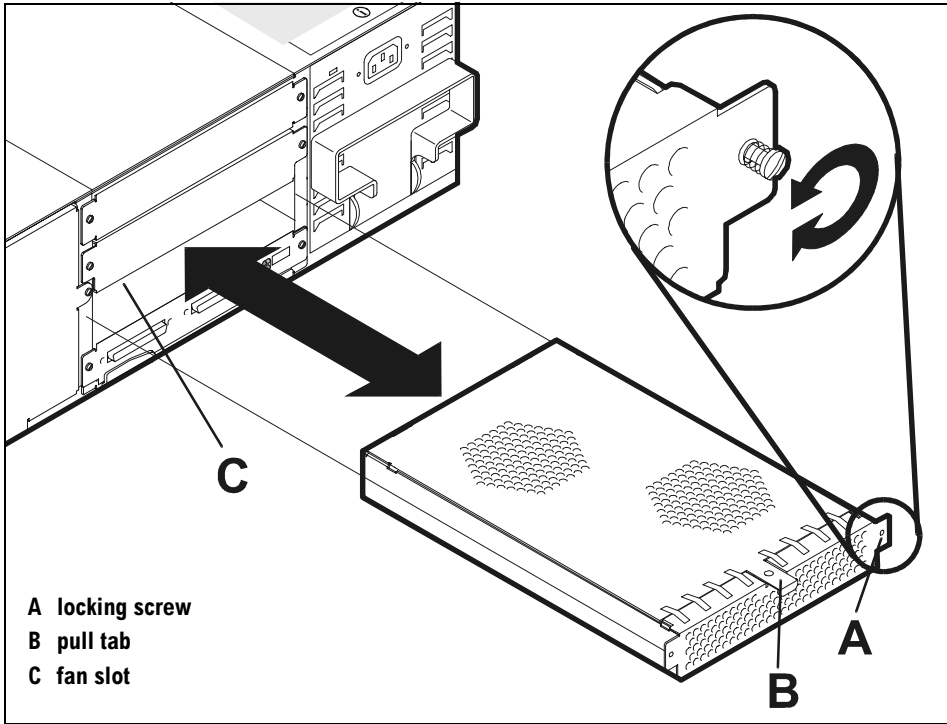

Figure 54 Fan Removal and Replacement
1. Loosen the two locking screws (A in Figure 54) until they clear the disk system chassis. The screws stay with the fan.
2. Pull the fan out of the chassis by the metal tab (B).
3. Insert the replacement fan into the vacated slot (C).
5. Tighten the locking screws (A).